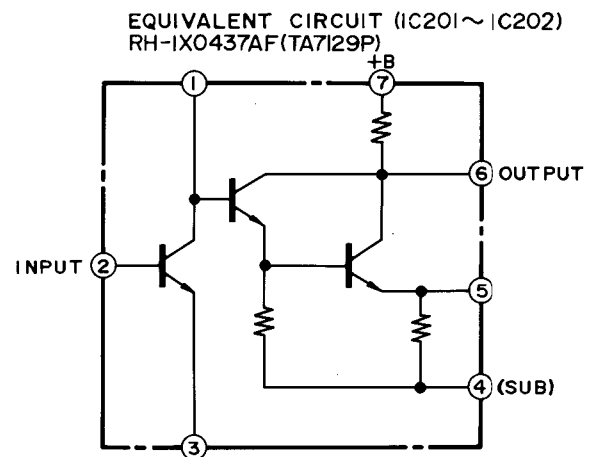

Figure 9-2
1.2.2 Tone Control Circuit (Refer to Figure 9-2)